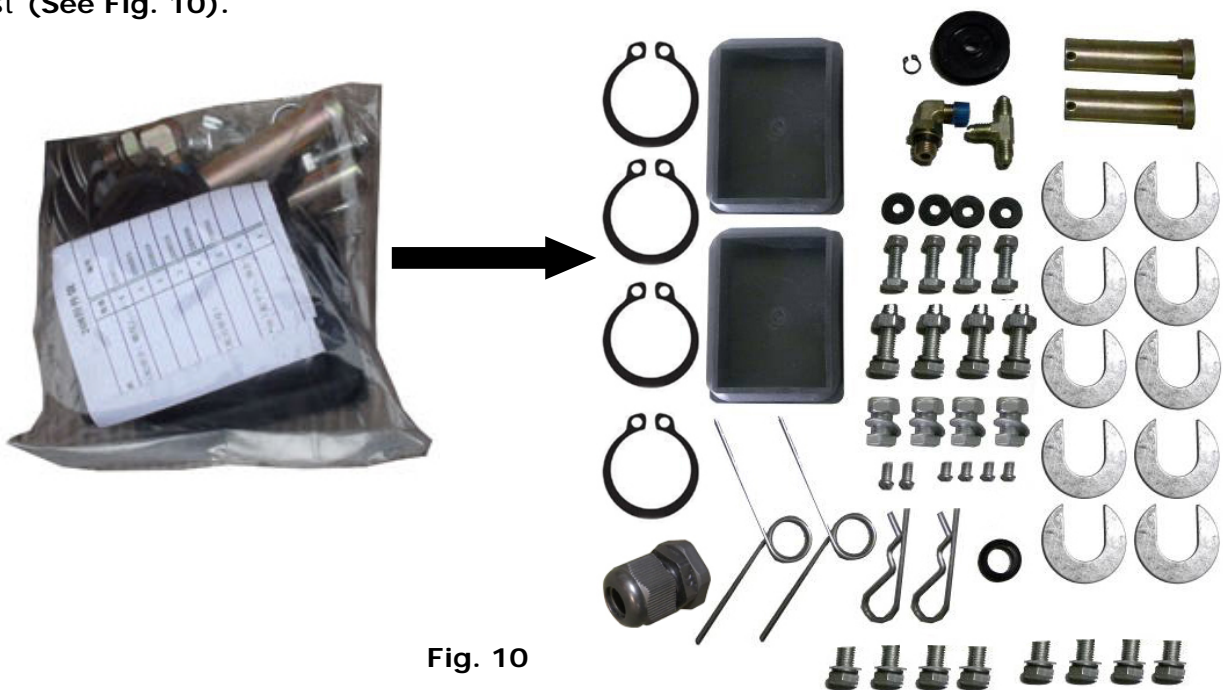

Fig. 10
5. Open the bag of parts and check the parts of the parts bag according to parts bag list (See Fig. 10).